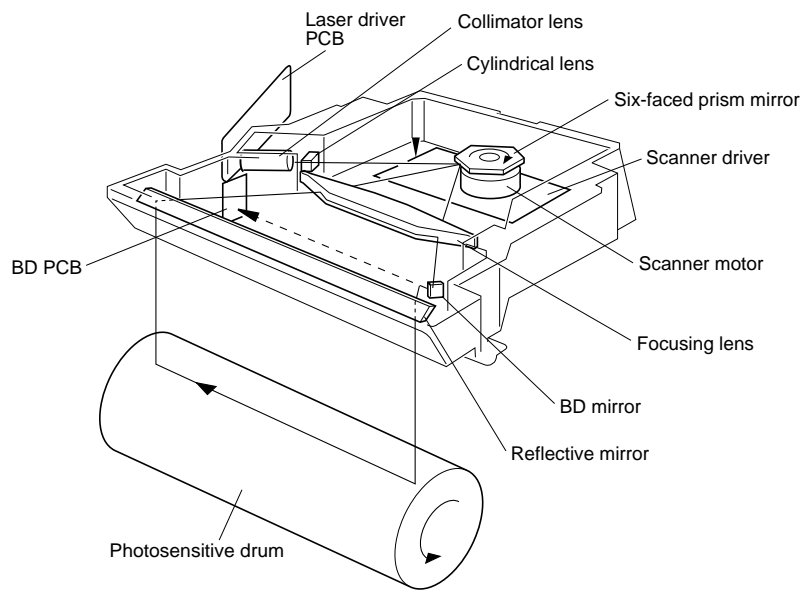

Figure 5-24 Laser/scanner operation
The DC controller signals the laser driver to activate the laser diode that generates the laser beam. The laser beam is aligned by the collimator lens and the cylindrical lens (see Figure 5-24). The beam then strikes the six-faced prism mirror located atop the scanner motor, while the mirror is rotating at a constant speed. The beam is then reflected and brought to a point to maintain a consistent round dot (focused) on the drum surface by the focusing lens. At the beginning of the scan line, the beam first strikes the beam detect (BD) mirror and then the BD PCB. After the initial strike, the beam strikes the drum surface. With the drum rotating at a constant speed, the laser beam successively scans across the drum's surface, exposing the image.